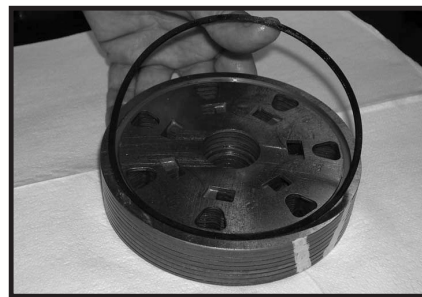

Figure 46
Apply clean grease to a **new** seal ring (4) and assemble it in the seal ring groove in the rotor set contact side of manifold (7). SEE FIGURE 46.